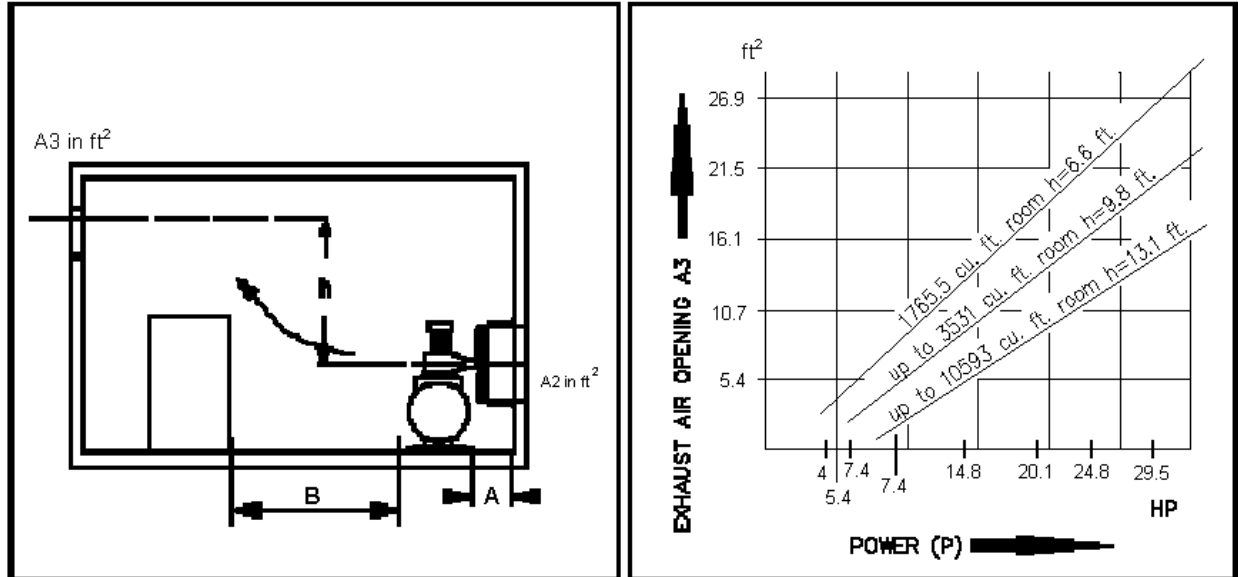

Fig. 16: Installation with natural ventilation
- Ensure that an adequate exhaust air opening is provided (see Fig. 16).
The table in Fig. 16 is based on the following values: